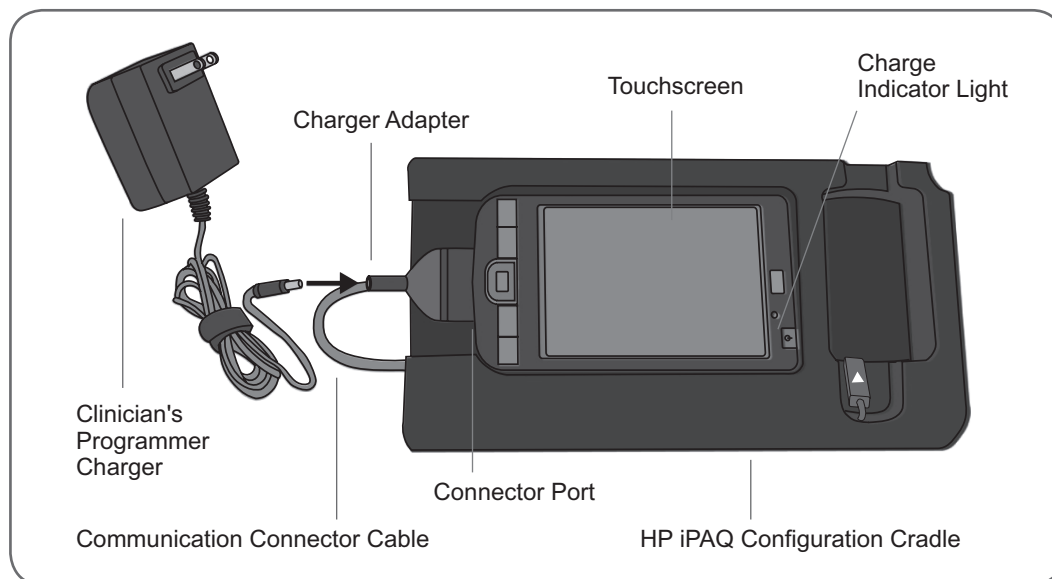

Figure 6-3: Clinician's Programmer setup and charging configuration.
Orient the Clinician's Programmer in the Configuration Cradle with the touchscreen facing up and the connector port facing left. See Figure 6-3.
1. Connect the Clinician's Programmer Charger to the charger adapter. See Figure 6-3.